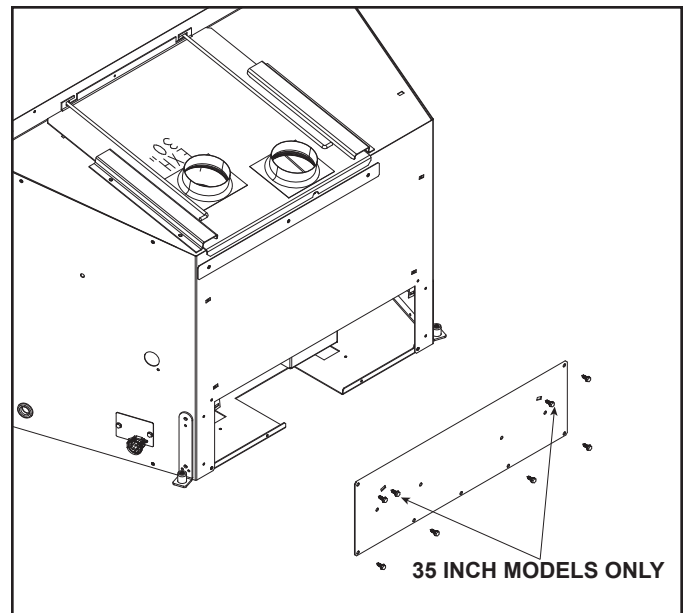

Figure 4. Remove Access Cover
3. Remove access panel by removing screws. See Figure 4. **Note:** 35 inch models have two more screws than 30 inch models.